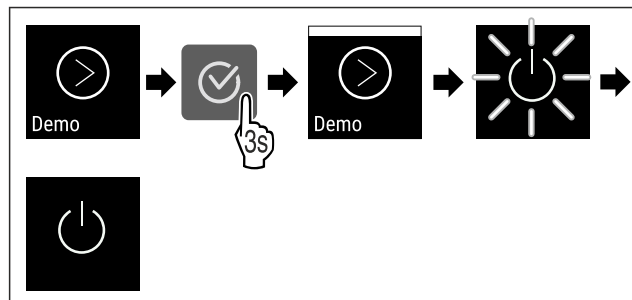

Fig. 90
- Complete steps (see Fig. 90) .